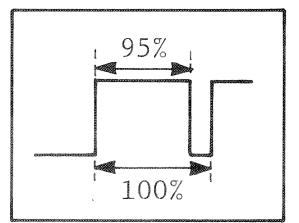

Fig. 37
- Press C4 key and adjust PWM 95% VR7 (PANEL BOARD A) so that duty ratio is 95%. (Fig. 37)